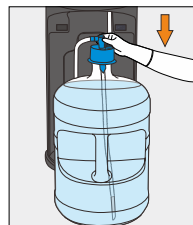

Figure 18
7. Push the tube to go through the Spike Cap, until it is close/hits bottom of the bottle(Figure 18)